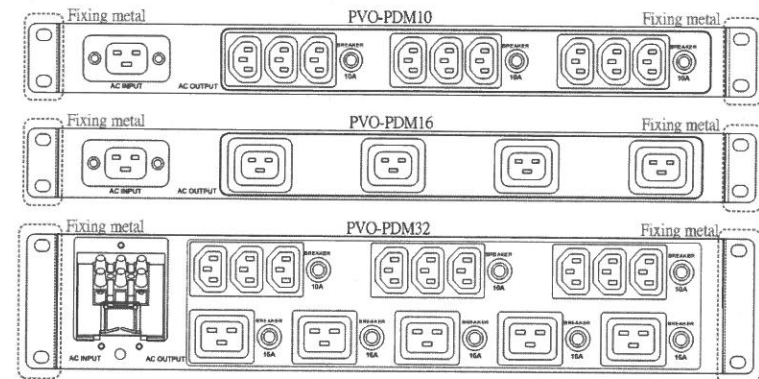

Figure 2: ESB Fixing Kits and their Installation
5. Fasten the fixing kit onto the ESB as Figure 2.
6. Fasten the fixing kit to the Rack Cabinet as figure 2.